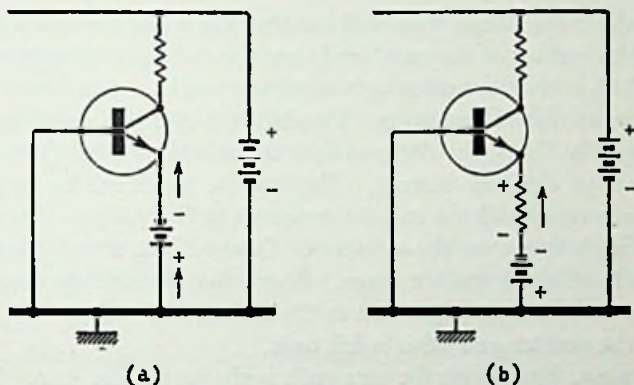

Fig. 5.9—The gain of the transistor is reduced by putting a resistor in series with the emitter
A.G.C. in receivers using npn transistors works in a manner exactly opposite to that of pnp units. Consider the simple circuits shown in Fig. 5.9. In Fig. 5.9(a) electrons flow to the emitter from the negative terminal of the bias battery. This can be modified by putting a resistor in series with the emitter, as shown in Fig. 5.9(b). Once again the effect is to reduce the amount of forward bias, thereby lowering the gain of the transistor stage. Note that the voltage across the emitter resistor is in opposition to the emitter bias voltage—and once more the emitter gets what is left over.